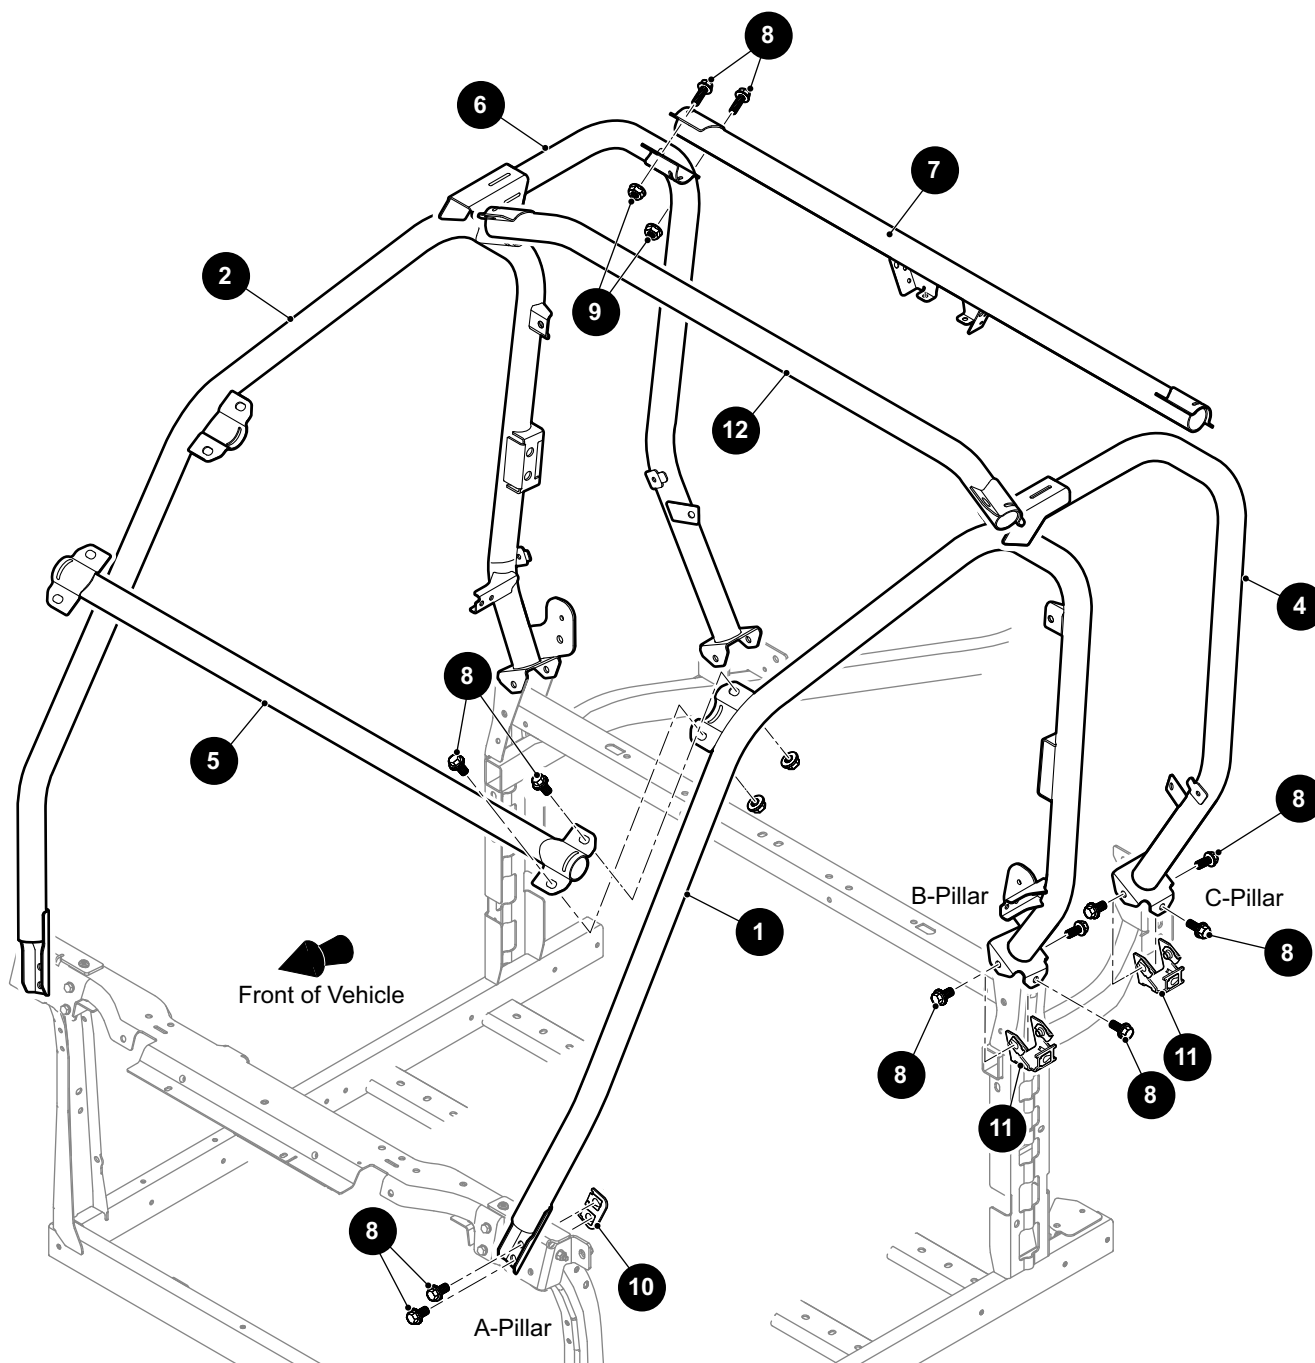
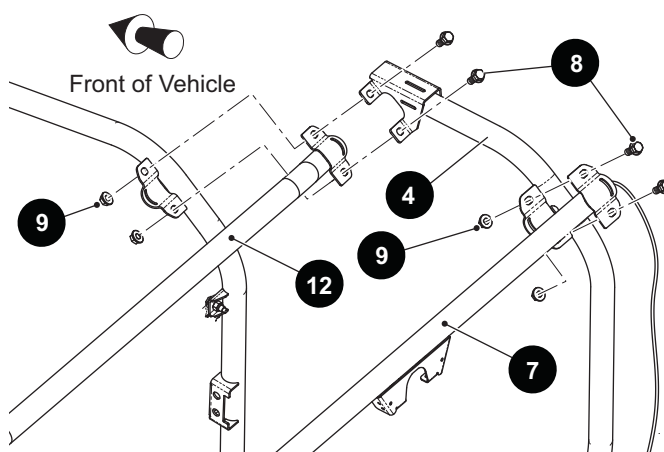

Fig. 1 ROPS Components
Fig. 2
2. Remove the bolts (8) and the nuts (9) that secure the ROPS side tubes (1 and 2) to the seat back supports (24) (Ref. Fig. 1).
3. Remove the bolts (8) and the mounting plate (10) that secure the front of the ROPS side tubes (1 and 2) to the A-pillar of the frame.
4. Remove the bolts (8) and the mounting plate (11) that secure the rear of the ROPS side tubes (1 and 2) to the B-pillar of the frame.
5. Remove the bolts (8) and the mounting plate (11) that secure the extended cab tubes (4 and 6) to the C-pillar of the frame.
2. Position the driver side ROPS tube (1) as shown (Ref. Fig. 1). Secure the front of the side ROPS tube (1) to the vehicle frame A-pillar with bolts (8) and mounting plate (10). Finger tighten hardware to allow for adjustment.
3. Attach the other end of the driver side ROPS tube (1) to the B-pillar. Secure with bolts (8) and mounting bracket (11). Finger tighten hardware to allow for adjustment.
4. Repeat the above steps for installing the passenger side ROPS tube (2).
1. Position the lower end of the extended cab ROPS tube (4) over the driver side C-pillar of the vehicle frame and secure with bolts (8) and nuts (9) (Ref. Fig. 1). Finger tighten hardware to allow for adjustment.
2. Repeat the above steps for installing the passenger side extended cab ROPS tube (6).
3. Do not install the top bracket hardware of the extended cab ROPS tube (4 and 6) until the rear cross-tube (12) has been installed (Ref. Fig. 2).
1. Slide the ends of the cross-tube (12) in between the ROPS tube mounting brackets (1 and 4) and align the mounting holes of all three brackets (Ref. Fig. 1)(Ref. Fig. 2). From the top, insert bolts (8) into the mounting holes, and secure with lock nuts (9). Finger tighten bolts to allow for adjustment.